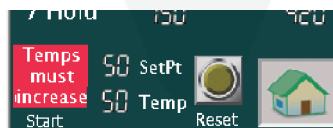

FIG 25. Temperatures must increase
In a similar alert type mode, the four (4) entered temperatures must increase in value (i.e. the temperature of "Temp 2" has to be greater than "Temp 1"). If a user tries to enter a lower temperature than any of the previous, an alert message will replace the "Start" button [Fig. 25].